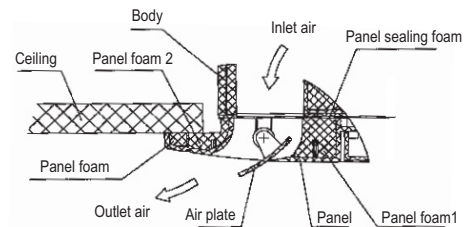

Fig.24
- Keep fastening the screws under the panel hooks, until the thickness of the sponge between the body and the panel's outlet has been reduced to about 0.16~0.24 inches (4~6mm). The edge of the panel should contact with the ceiling well. (Refer to Fig.24)